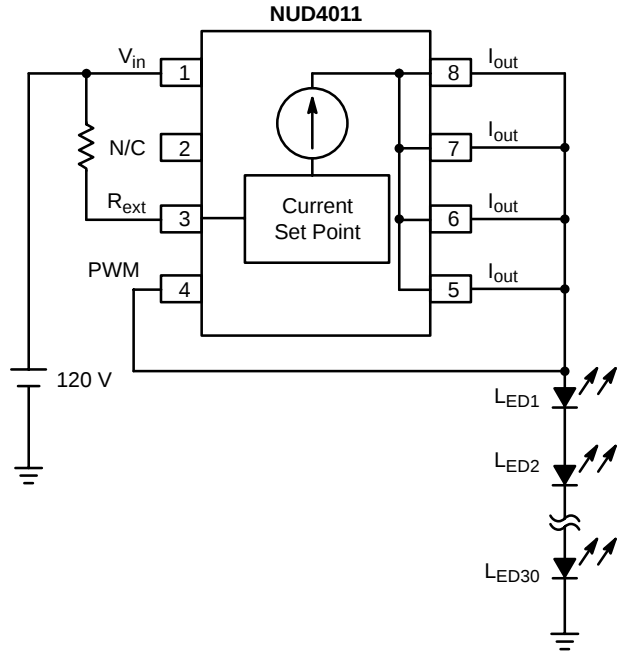

Figure 5. 120 V Application
3. Device's pin 4 connected to the LEDs array (as shown in Figure 5).
- a. Per example in Figure 5, $V_{in} = 120 \text{ Vdc}$
4. Define V_{LED} @ I_{LED} per LED supplier's data sheet: per example in Figure 5,
- a. Per example in Figure 5, $V_{in} = 120 \text{ Vac}$